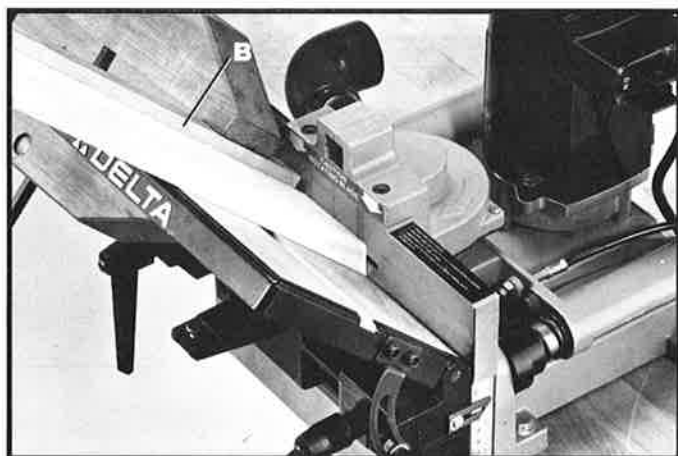

Fig. 41
2. Adjust the angle of the tilting table to match the angle of the workpiece, as shown in Fig. 41. Line up one of the points marked in **STEP 1** with the center line of the cutter and cut the first biscuit slot. **NOTE:** A back-up stop block (B) is clamped to the tilting table to support the workpiece. Cut the biscuit slot at the remaining position marked in **STEP 1**.